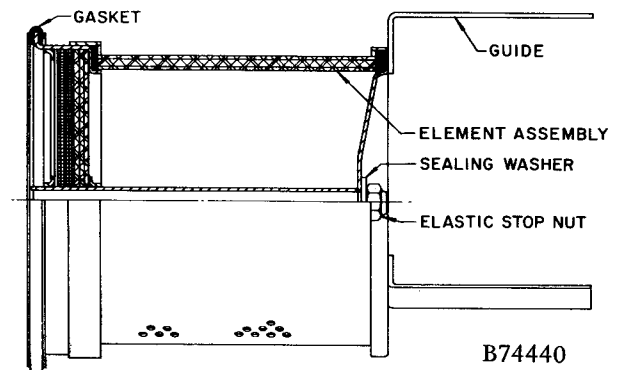

FIGURE 6-3. — OIL SEPARATOR
**COMPRESSOR OIL SEPARATOR** (Figure 6-3) located at the motor end of the oil reservoir is a renewable cartridge type oil separator element and provides final removal of oil from the air stream. Oil from inside the separator and the sump section of the reservoir surrounding it, is returned through tubing to the compressor cylinder.